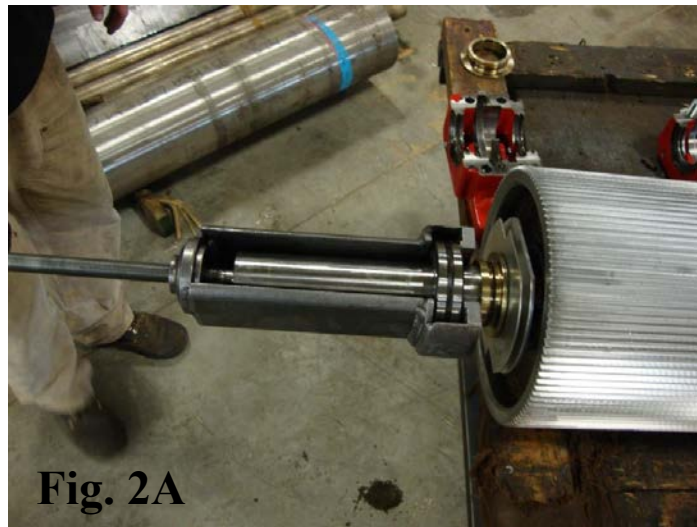

Fig. 2A
2. To remove bearing, place the bearing removal tool(A1009) over bearing and shaft and remove bearing as shown in Fig. 2A (If there is a snap ring present, be sure to remove it prior to pulling bearing)